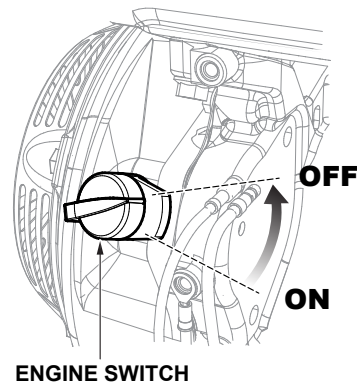

Figure 32. Engine ON/OFF Switch (OFF)
2. Turn the engine ON/OFF switch (Figure 32) to the **OFF** position.